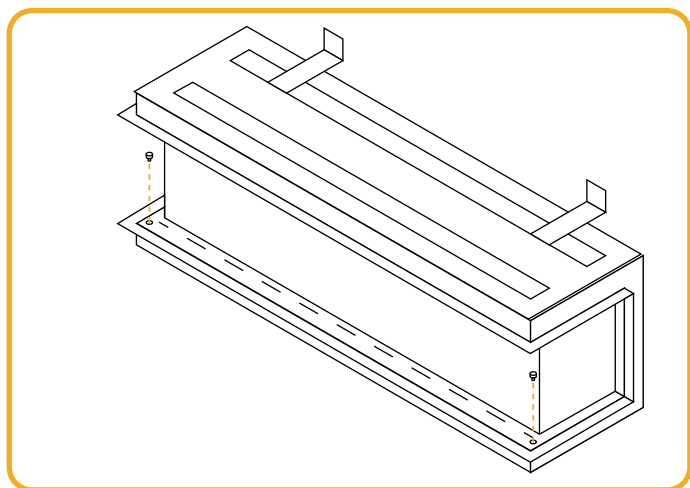

Figure.9.1 | When present: remove bottom screws
- Remove, if needed the screws from the retainer strip. See Figure 9.1.